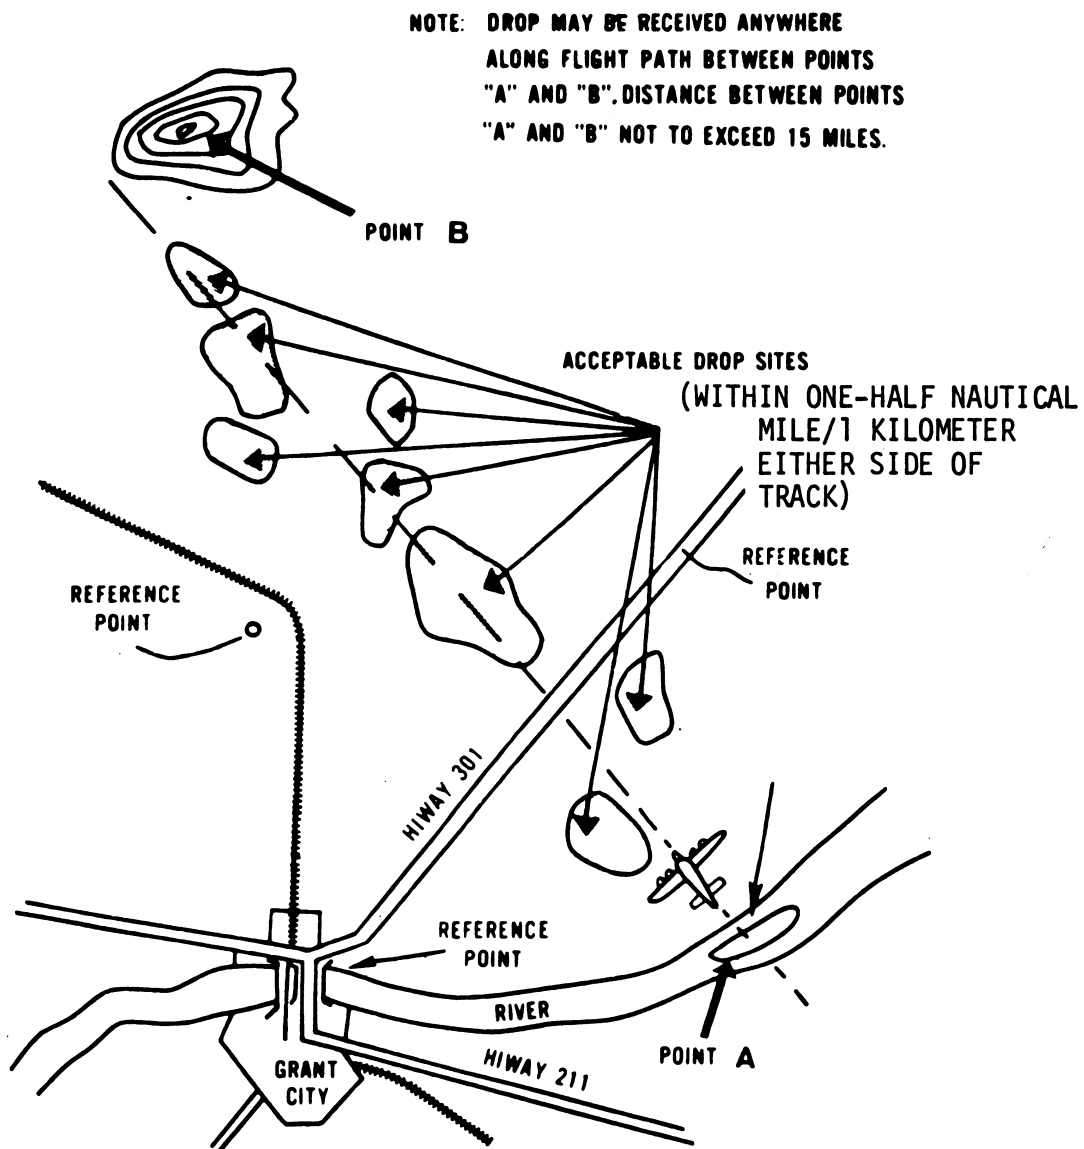
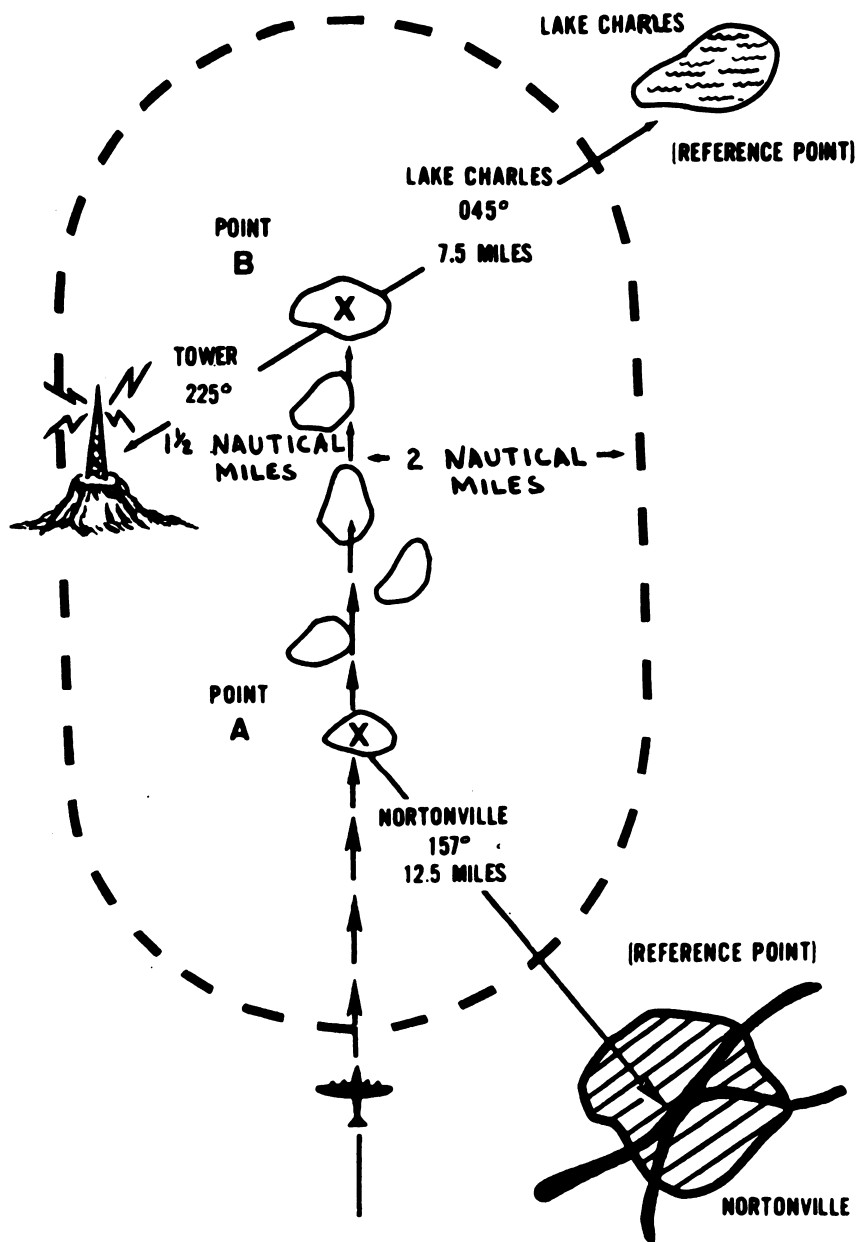

Figure 5. Area DZ (reference points).
Figure 6. Obstacles and reference points (area DZ).
a. Selection. An area DZ consists of a prearranged flight track over a series of acceptable drop sites. This establishes a line of flight between two points, "A" and "B" (fig. 5).
(1) The distance between these points should not exceed 15 miles and should have no major changes in ground elevation in excess of 300 meters.
(2) Drop sites may be selected not more than one-half nautical mile/1 kilometer to the left or right of the established line of flight.
(3) The aircraft arrives at point "A" at the scheduled time and proceeds toward point "B," observing for the DZ markings. Once the markings are located, the drop is conducted in a normal manner.
(1) Locations of both point "A" and point "B," including reference points (fig. 5), must be identified.
(2) The open quadrant is not reported.
(3) If you are in a field environment, obstacles over 91 meters above the level of the terrain along the line of flight, within 2 nautical miles on either side, and not shown on the issued map (fig. 6), are identified in reference to either point "A" or point "B."